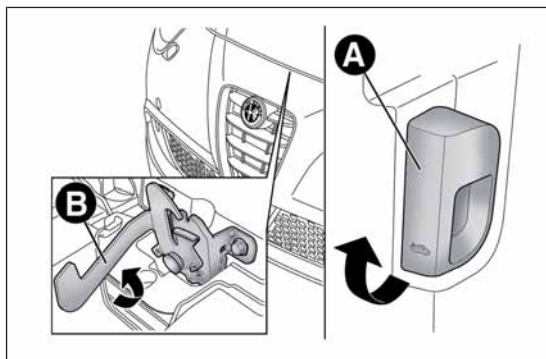

fig. 68
- pull lever A fig. 68 in the direction indicated by the arrow;